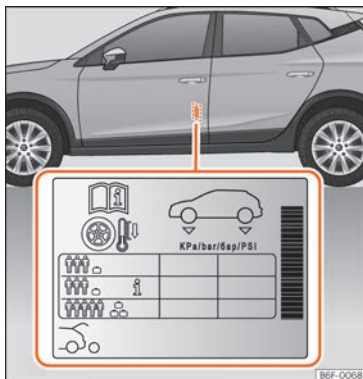

Fig. 202 Location of the tyre pressure sticker.
- Adjust tyre pressure to the load being carried by the vehicle » **Fig. 202**.
The tyre inflation pressures are listed on a sticker on the rear of the front left door frame » **Fig. 202**.
Depending on the vehicle, tyre pressure can be adjusted to medium load to improve driving comfort (tyre pressure **i** » **Fig. 202**). When driving with comfort tyre pressure fuel consumption may increase slightly.
The tyre pressure must be adjusted according to the load the vehicle is carrying. If the vehicle is going to carry the maximum load, the tyre pressure should be increased to the maximum value indicated on the sticker » **Fig. 202**.
pressure of 4.2 bar as indicated on the tyre pressure label » **Fig. 202**.
- The driver is responsible for ensuring that all of the vehicle tyres are correctly inflated to the right pressure. The recommended tyre pressure is indicated on the label » » Fig. 202.
- When the tyres are cold, tyre pressure should be that indicated on the label » » Fig. 202.